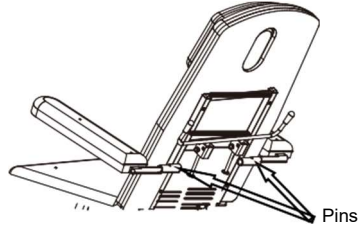

Figure 9
- Insert the rods on the armrests into the round pipes on both sides of the head section, and rotate and fix the pins into the slots of the round pipes. (Figure 9)